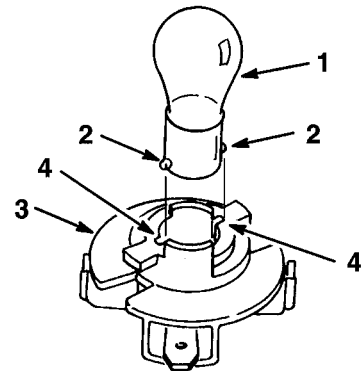

Figure 28
1. The bulb has metal pins on the side of its base. Align the pins with the slots in the bulb holder and insert the base into the holder (Fig. 28). Push and rotate the bulb clockwise until it stops.
4. Push and rotate the bulb counterclockwise until it stops (approx. 1/4 turn) and remove bulb from the bulb holder (Fig. 28).